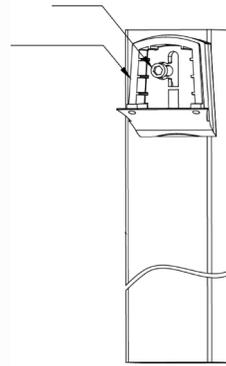

Fig 2
3. Slide SR bracket onto bolt, fasten bolt to secure, insert and fasten additional bolt through bottom hole. (Fig. 2)